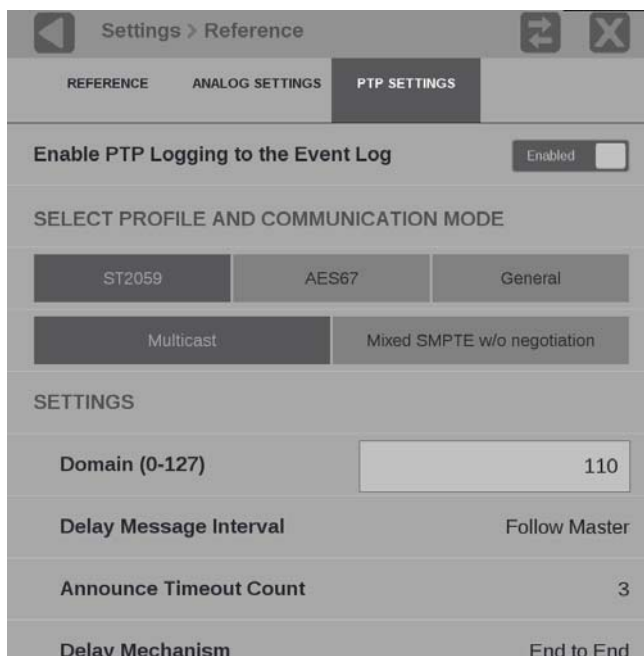

Figure 47: Editing PTP reference settings
2. Select **Reference** to open the Reference submenu and select the **PTP Settings** submenu. (See Figure 47.)